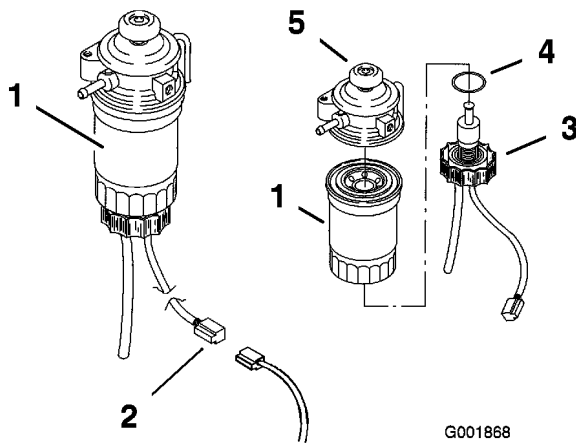

Figure 48
6. Remove the drain plug and discard the o-ring (Figure 48).
8. Install a new filter on by hand until the gasket contacts the housing, then tighten an extra 1/3 of a turn (Figure 48).